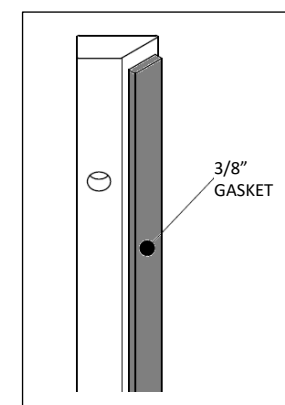

Fig. H8 – Gasket install on glass retainer
5. Attach gasket to glass retainer bar as shown in Fig. H8.